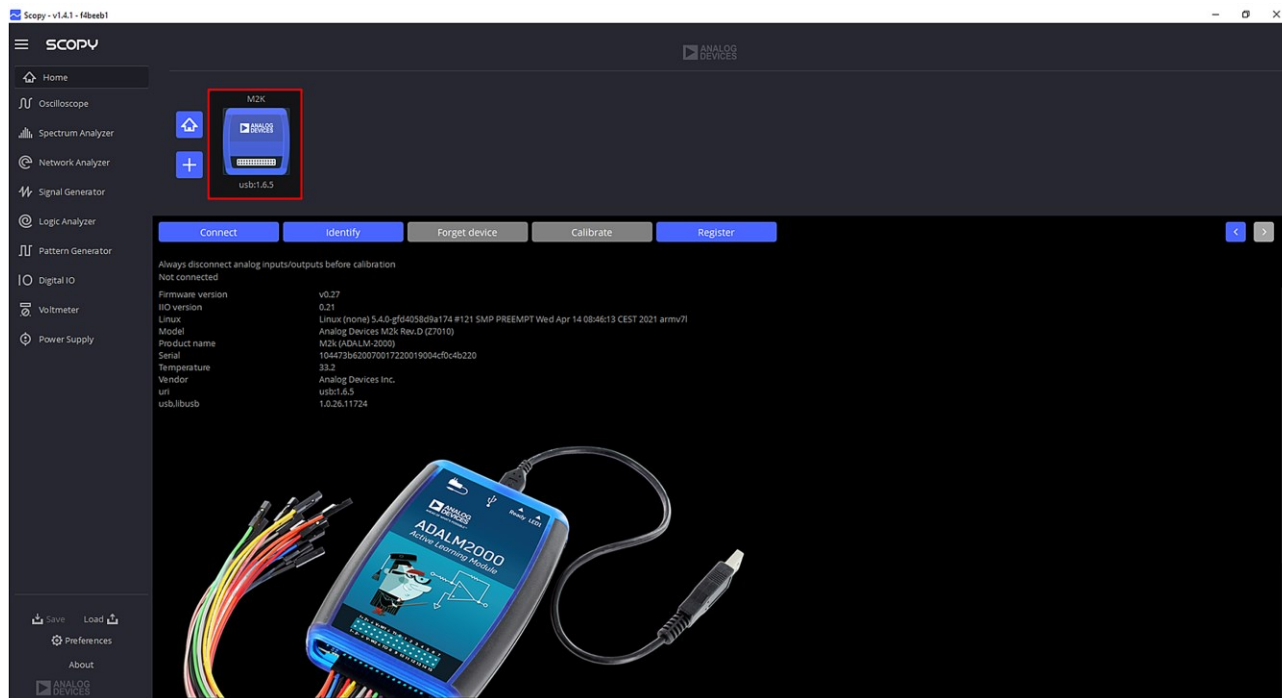

Figure 5. ADALM2000 Connection Icon
4. As shown in Figure 5, click the **ADALM2000** icon, then click the **Connect** button to begin connecting. The device is successfully connected when the **Connect** button is replaced with the **Disconnect** button.